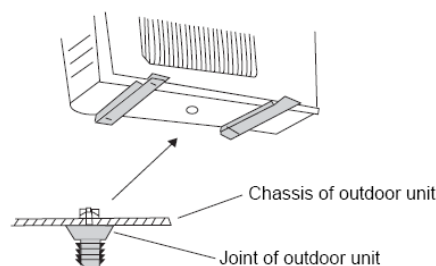

Fig.11-12
- Insert outdoor drainage joint into hole $\phi 25$ at chassis as shown in fig.11-12, then connect the hose onto drainage nozzle can drain condensate and defrost water to proper place.